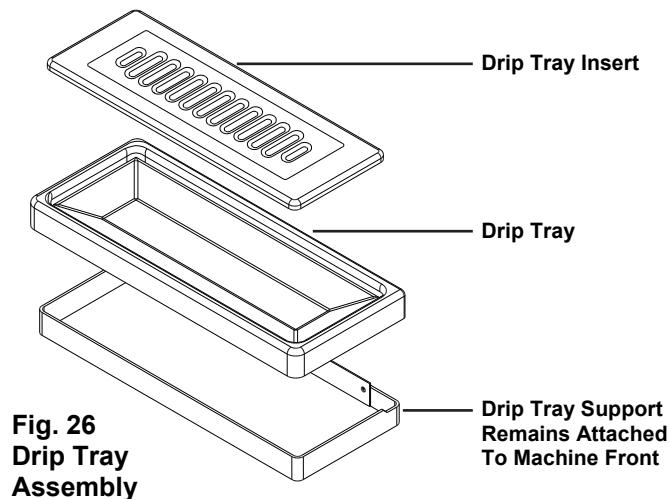

Fig. 26
5. Install the drip tray and drip tray insert (Fig. 26).